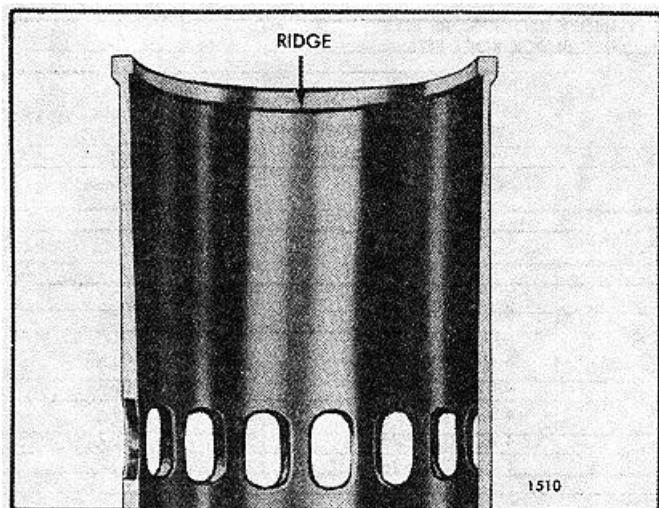

FIG. 5 Cylinder Liner Ridge Due to Wear
2. To remove the ridge (Fig. 5) formed at the top by the piston ring travel. Otherwise, interference with the travel of the new compression rings may result in ring breakage.